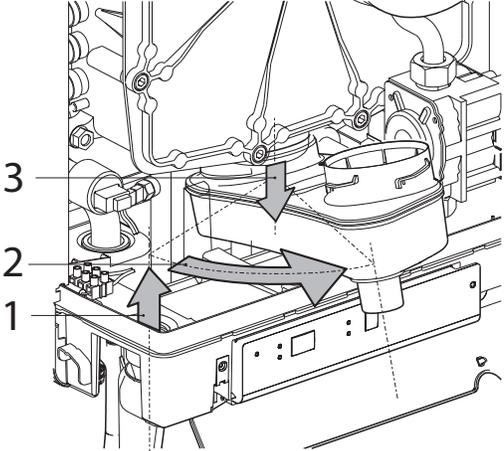

Fig. 25: Removal of Condensate Pan
5. Once the condensate pan is clear of the bottom jacket, rotate it towards the front of the appliance and push down on the rear to disengage from the heat exchanger as shown in Fig. 25, page 55.